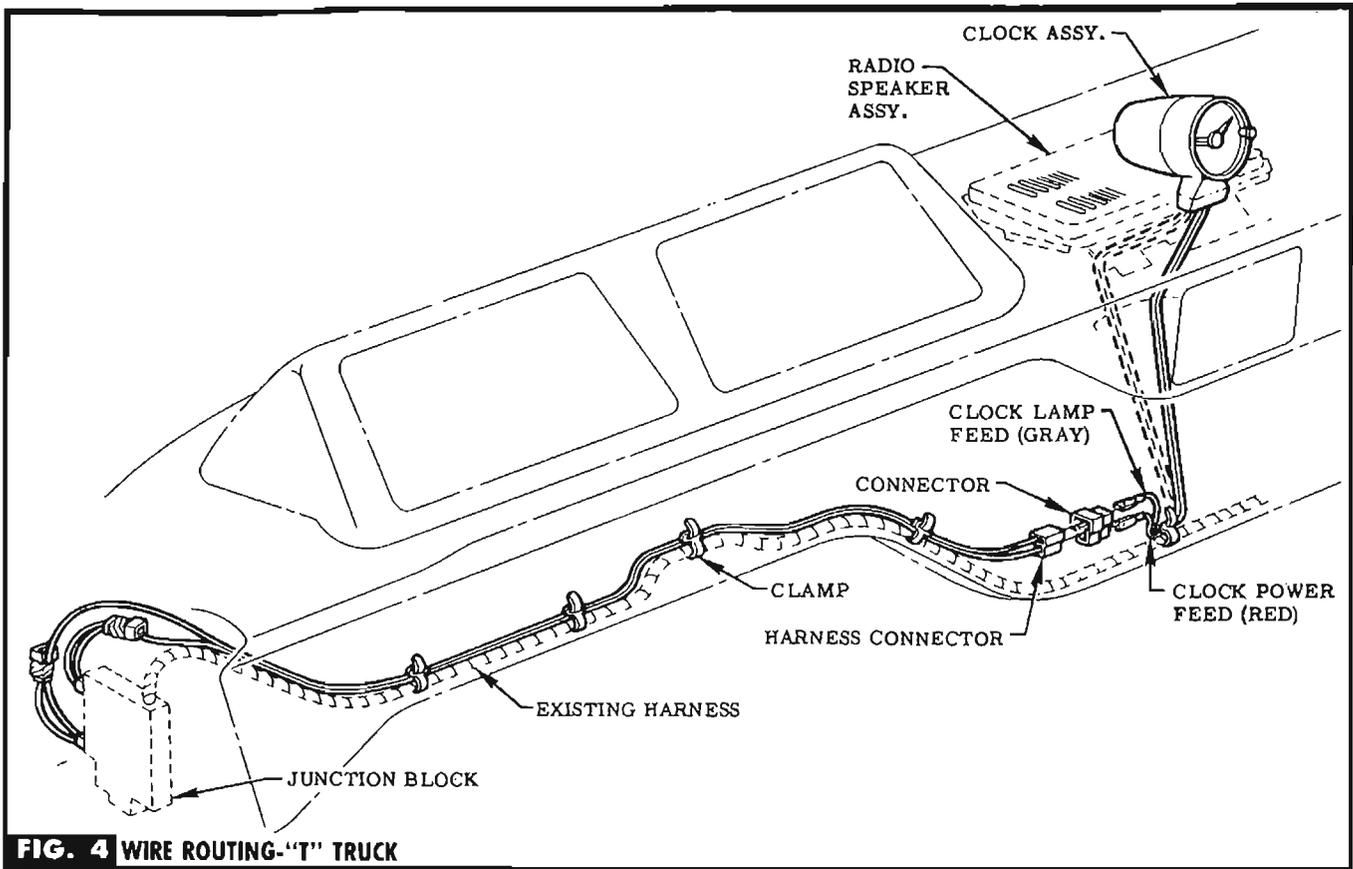

FIG. 4 WIRE ROUTING-'T' TRUCK
STEP 4 INSTALL CONNECTORS ON TERMINALS. ATTACH CLOCK WIRES TO EXISTING HARNESS WITH CLAMP PROVIDED. SEE FIG. 4, 5 OR 6. **NOTE** If radio exists, install speaker & route lamp wires over edge of speaker.
WIRING HARNESS TOGETHER & ROUTE CLOCK WIRING HARNESS TO JUNCTION BLOCK, ATTACHING WITH CLAMPS PROVIDED. SEE FIG. 4, 5 OR 6.